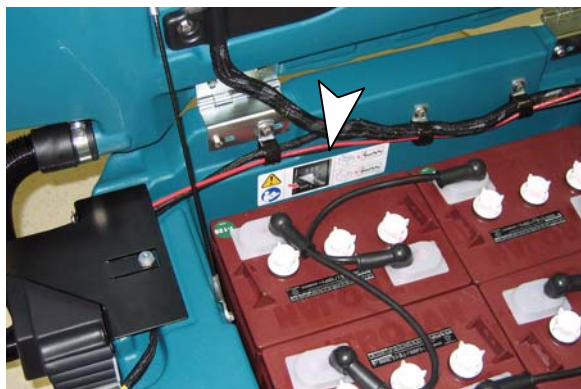

Fig. 9
10. Apply the new battery label to the wall of the battery compartment in the location shown (Figure 9).